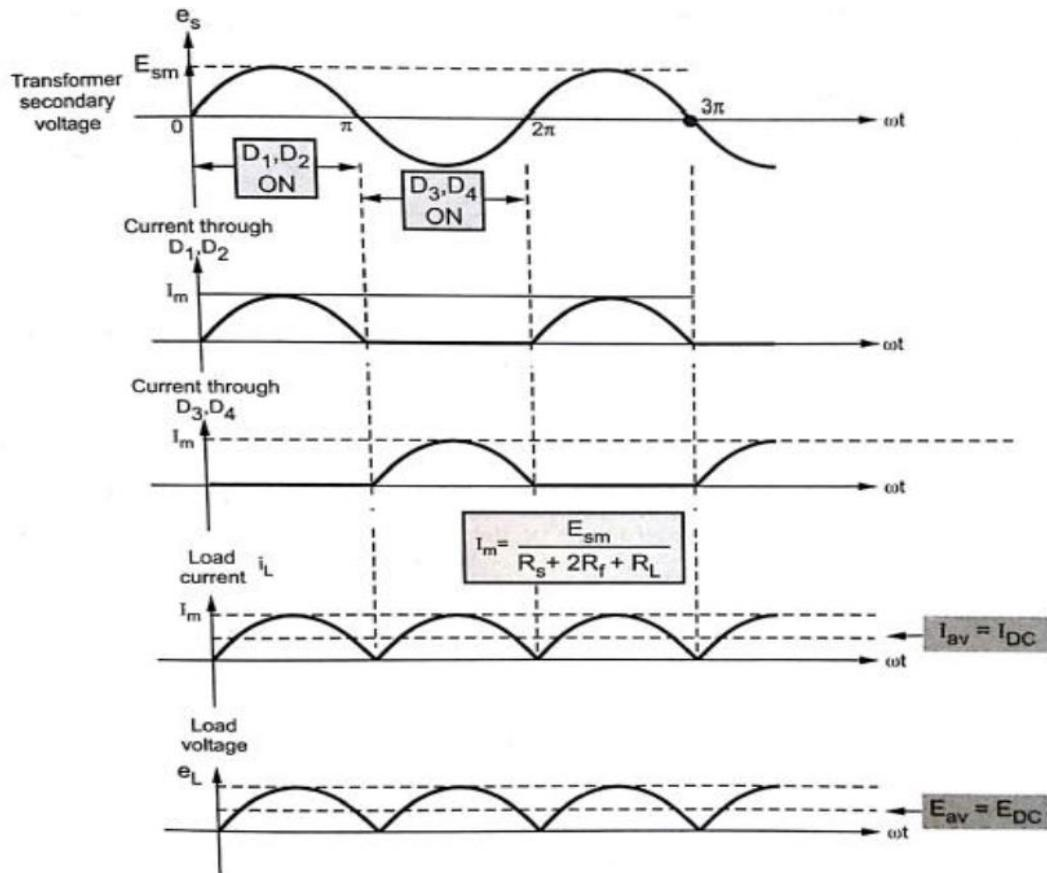

Fig. 2.6 Waveforms of bridge Rectifier
- The two diodes D1 and D2 conduct in series with the load and the current flows as shown in Fig. 2.6.
- Now the diodes D3 and D4 conduct in series with the load and the current flows as shown in Fig. 2.6.
- The waveforms of load current and voltage remain are shown in figure 2.6.